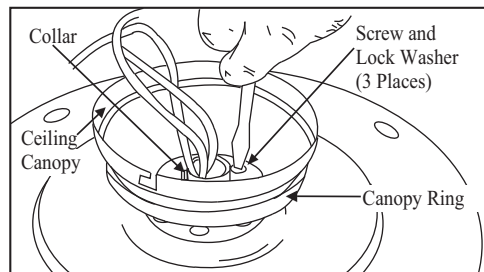

Figure 11
5. Route the wires exiting the top of the fan motor through the canopy ring (make sure the slot openings are on top), then proceed to place the canopy ring and ceiling canopy over the collar at the top of the motor. (Figure 11)
6. Align the mounting holes with the holes in the motor and fasten using the screws and lock washers removed in step 4. (Figure 11)